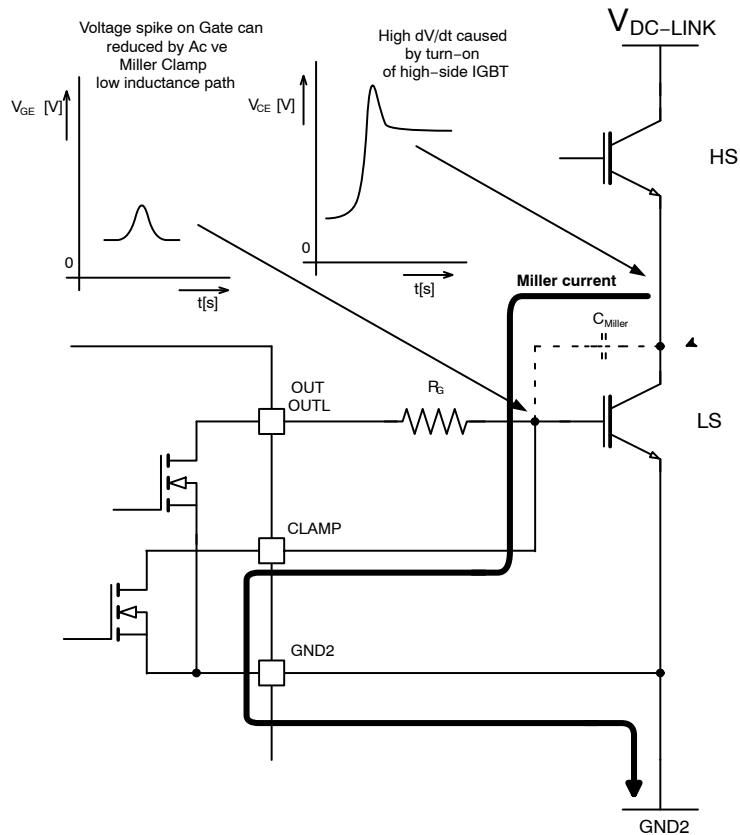
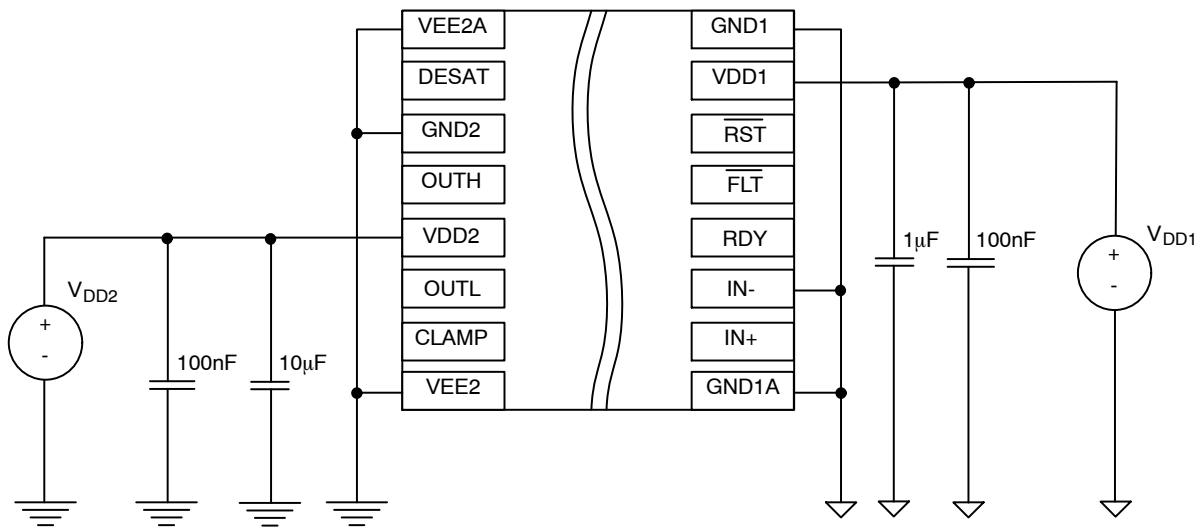

Figure 38. Current Path with Miller Clamp Protection
Figure 42. Unipolar Power Supply
- In Unipolar power supply the driver is typically supplied with a positive voltage of 15 V at VDD2 (Figure 42). Dynamic turn on throughout the internal power switch input capacitance could be prevented by Active Miller Clamp function. CLAMP output should be directly connected to power switch gate (Figure 38).